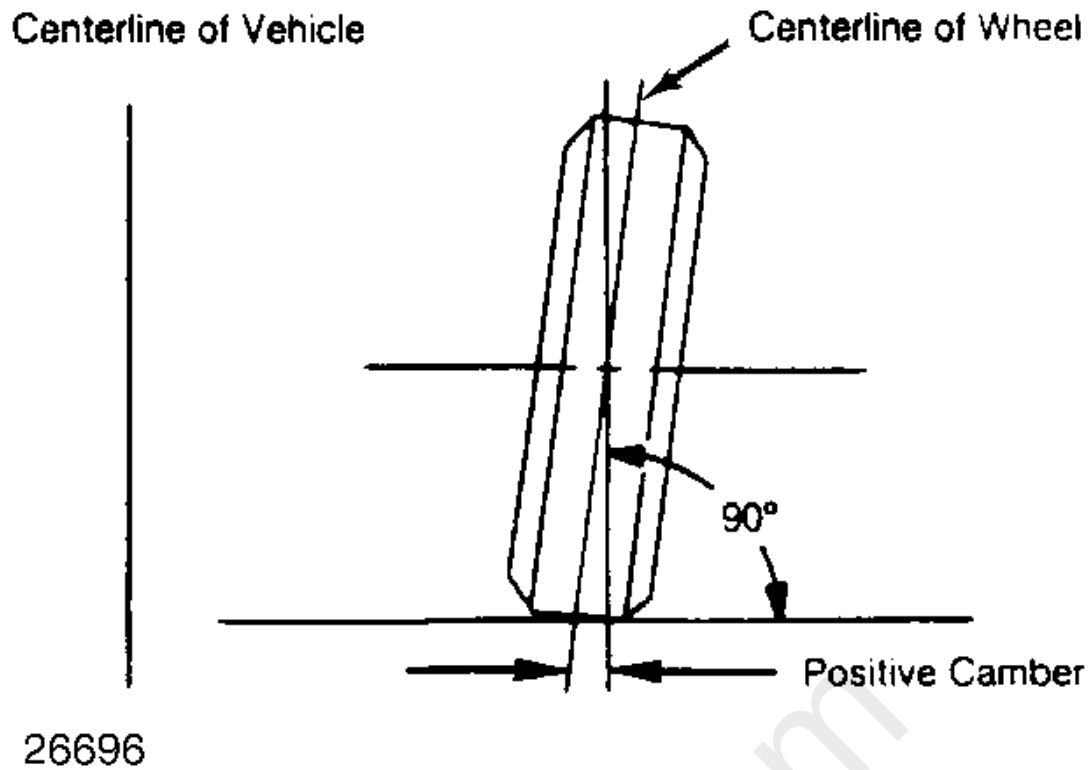

Fig.3: Determining Camber Angle
1. Camber is the tilting of the wheel, outward at either top or bottom, as viewed from front of vehicle. See Fig. 3.